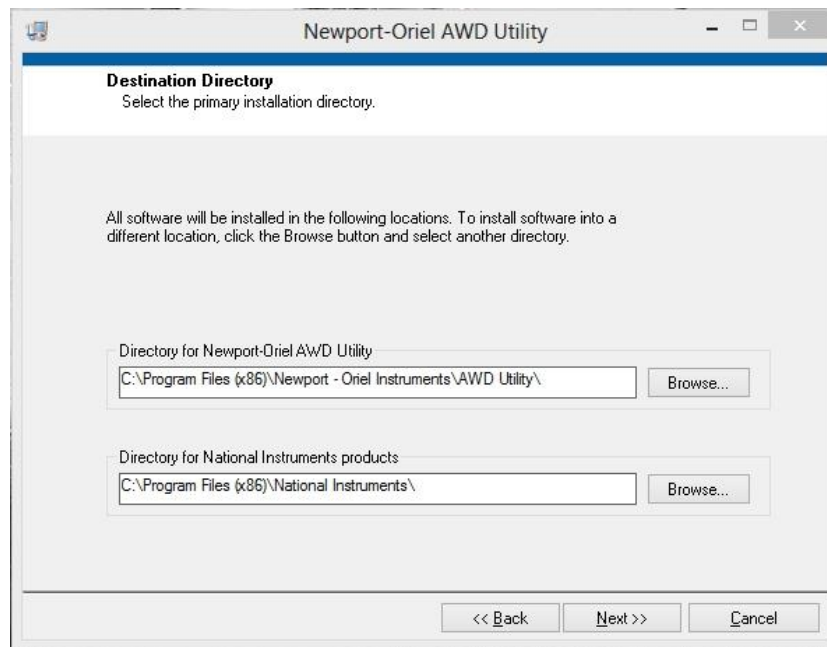

Figure 16: Destination Directory Selection
- When the “Destination Directory” screen appears, the option is available to install the software into the default location or a different location. To install software into a different location, click the “Browse” button and select another directory. There are separate directories for AWD Utility and National Instruments (supporting) Products, as shown in Figure 16. Click “Next” to continue. During the installation, it is normal for other dialog boxes to flash as software is added.